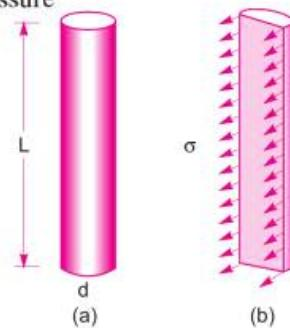

Fig. 1.12 Forces on liquid jet.
I.6.3 Surface Tension on a Liquid Jet. Consider a liquid jet of diameter 'd' and length 'L' as shown in Fig. 1.12.